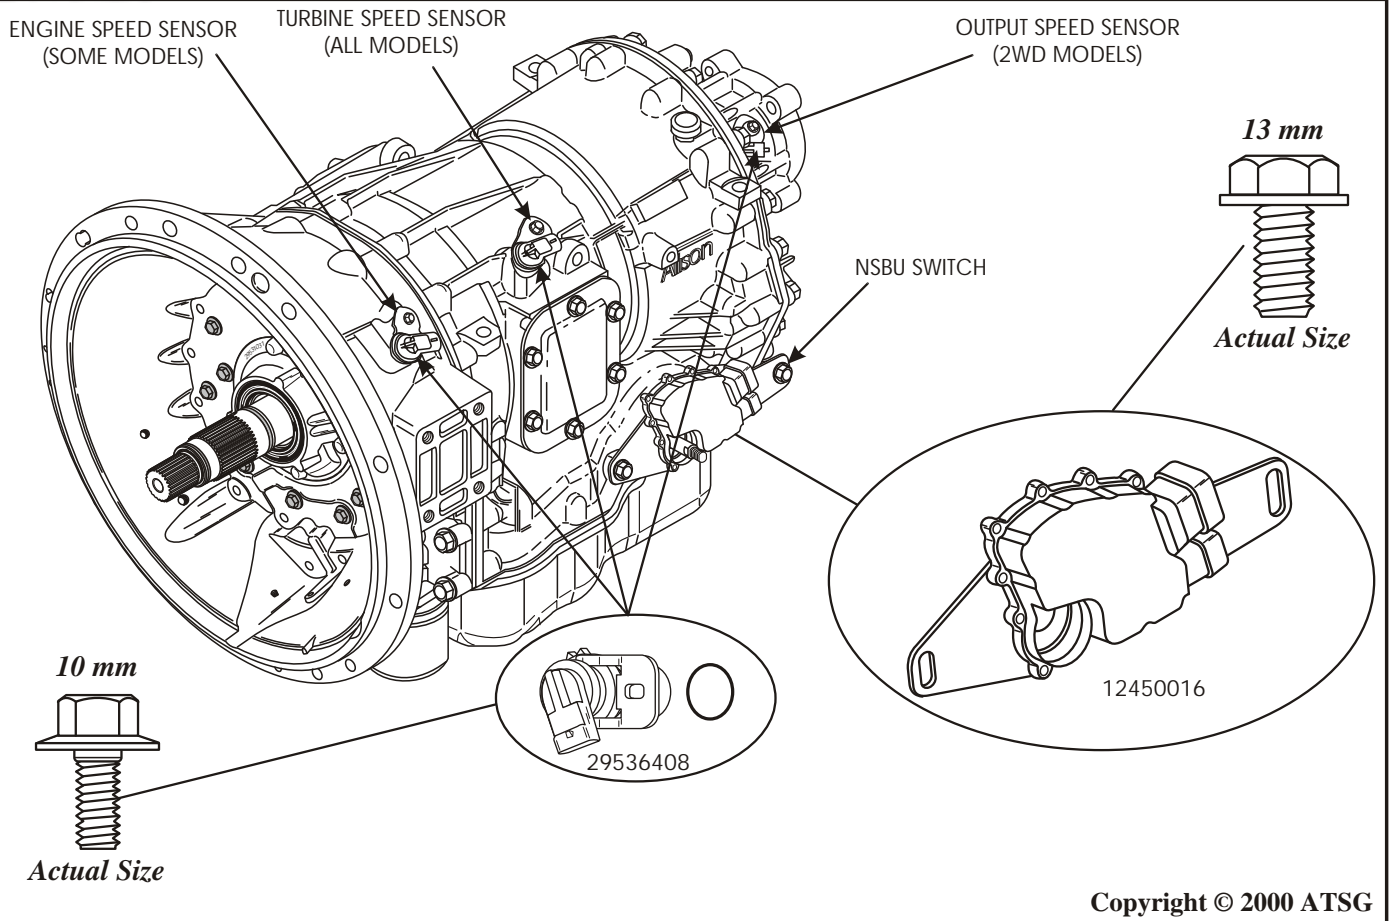

Figure 176
65. Install new "O" rings on all three speed sensors and lubricate "O" rings with a small amount of TransJel® (See Figure 176).
66. Install all three speed sensors in their proper locations, as shown in Figure 176, and torque the retaining bolts to 12 N.m, (9 ft.lb.).
67. Install the Neutral Safety Back Up switch, as shown in Figure 176, and torque the retaining bolts to 27 N.m, (20 ft.lb.).